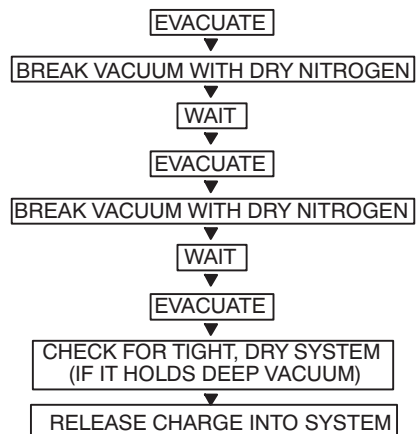

Fig. 22 —Triple Evacuation Method
The triple evacuation method should be used. Refer to Fig. 22 and proceed as follows:
5. Repeat this procedure as indicated in Fig. 22. System will then be free of any contaminants and water vapor.